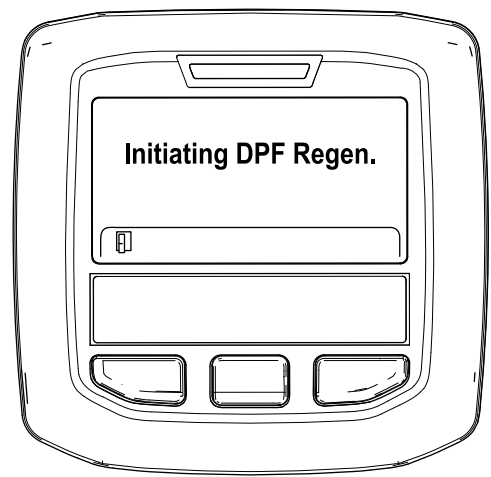

Figure 52
- A. The "Initiating DPF Regen." message displays (Figure 52).